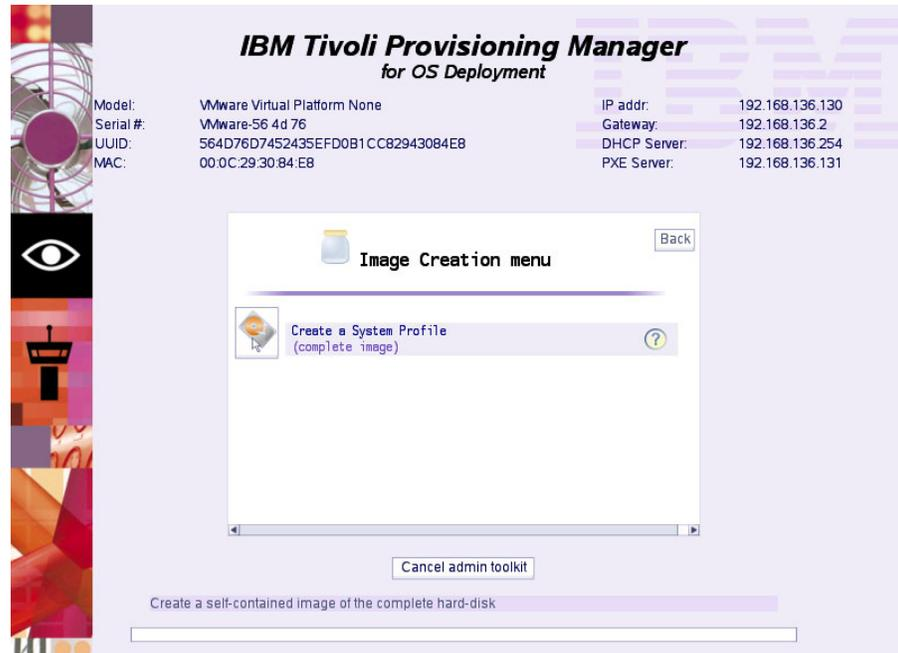

Figure 3-9 Selecting create a system profile
- Next, select **“Create a System Profile”** as shown in Figure 3-9 on page 63.